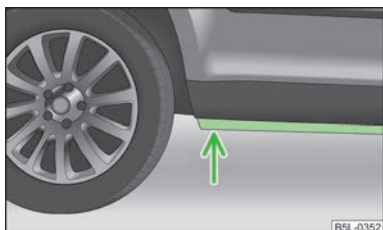

Fig. 154
- Therefore determine the depth of the water before driving through bodies of water. The water level must fit around the strut on the side member as a maximum » Fig. 154;